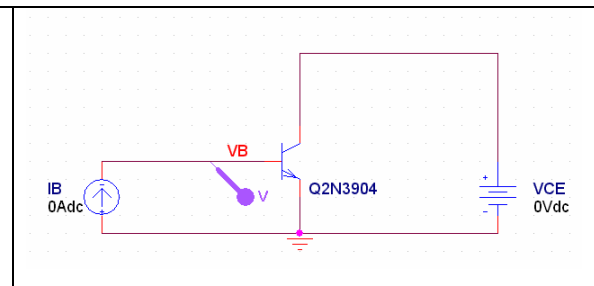

Figure P.2 Circuit to generate I_C vs. V_{CE} curve (V_{BE} curves)
- g) Delete the I_C current probe & place a voltage probe at node V_B as shown in fig P.2